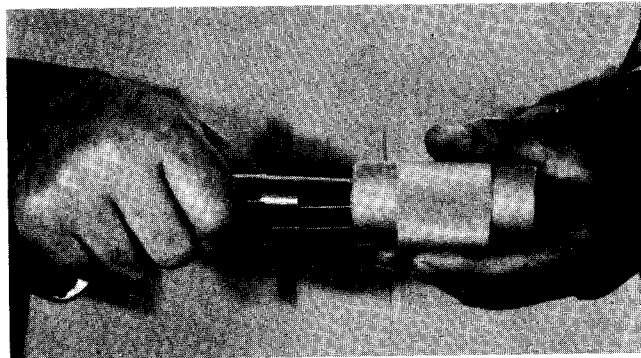

Figure 54-19 Checking the accuracy of a taper using chalk lines.
2. Insert the taper into the ring gage and turn *counter-clockwise* for one-half turn (Fig. 54-19).